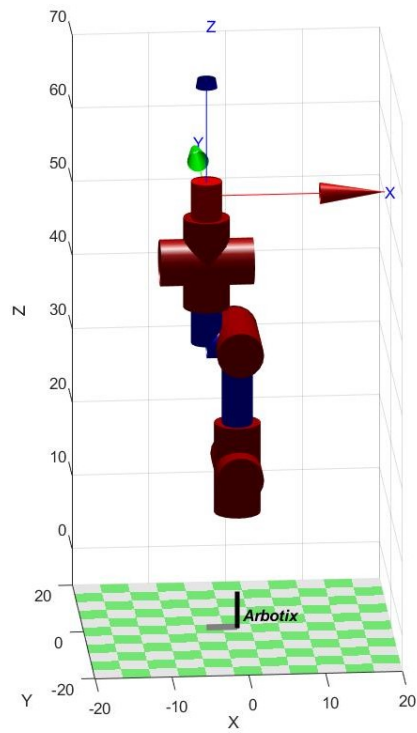

Figure 4: pArb plotted in zero configuration in the Robotics Toolbox MATLAB
5. Fill the provided incomplete MATLAB script `arm_creation_val.m`. Your task is to use the DH parameters and the Robotics Toolbox, create the model of the robotic arm (name the arm `pArb`). Then plot it in the zero configuration (see Figure 4). To plot the gripper you can use the command `pArb.tool` from the toolbox. Assume the link length parameters are  $L_1 = 17, L_2 = 17, L_3 = 7, L_4 = 4, L_5 = 4, L_6 = 9$  (lengths in cm). (10%)